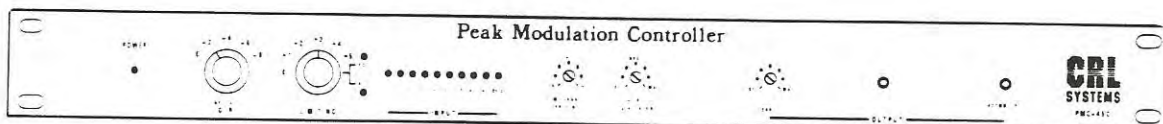
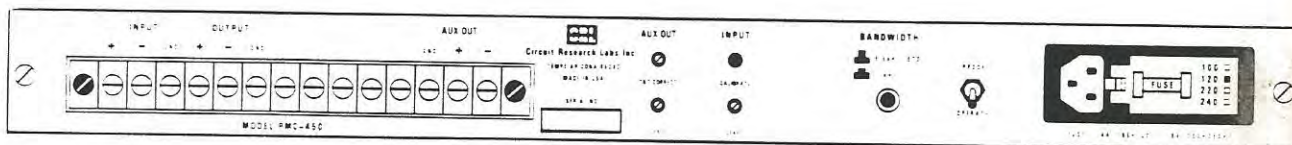

FIGURE 2-1 PMC-450 FRONT PANEL
FIGURE 2-2 PMC-450 BACK PANEL
2.2 The front panel of the PMC-450 is pictured in Figure 2-1 and the back panel is pictured in Figure 2-2.